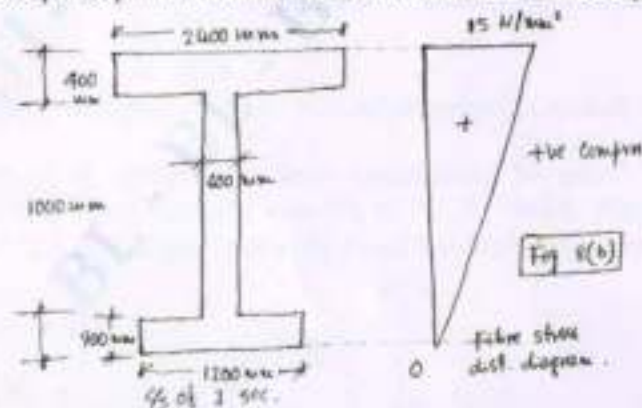

Fig.Q8(b)
- b. A prestressed concrete beam of unsymmetrical section is shown in Fig.Q8(b); the fibre stress distribution diagram 15 N/mm^2 at the top and zero at the bottom. Total vertical shear force is 2500 kN . Compute the principal tension at the centroidal axis at the support. (12 Marks)